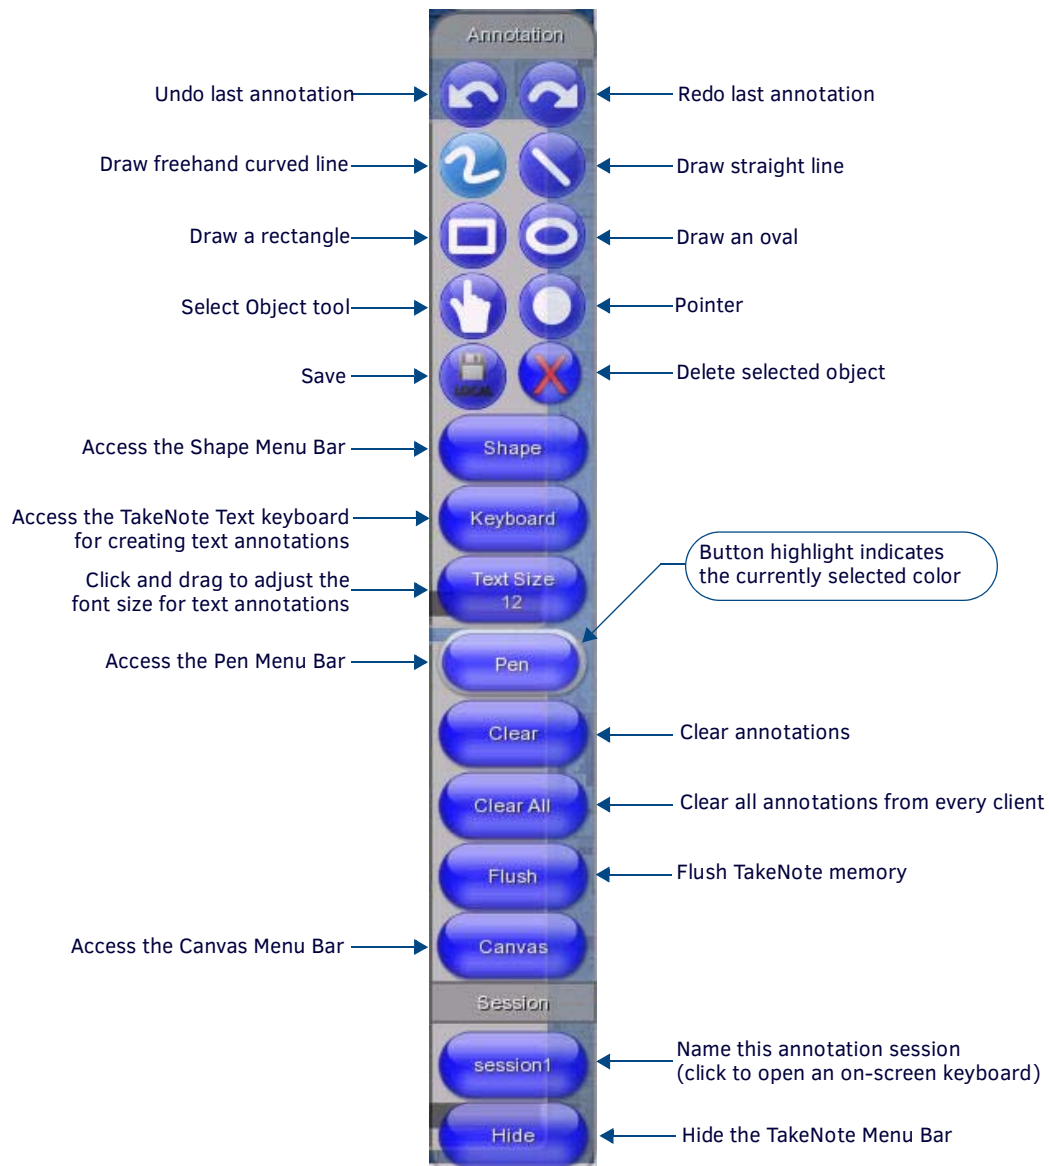
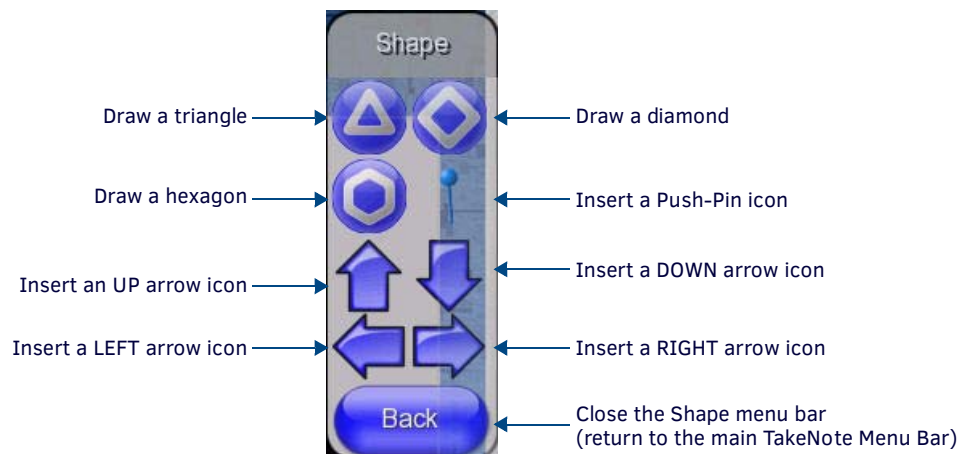
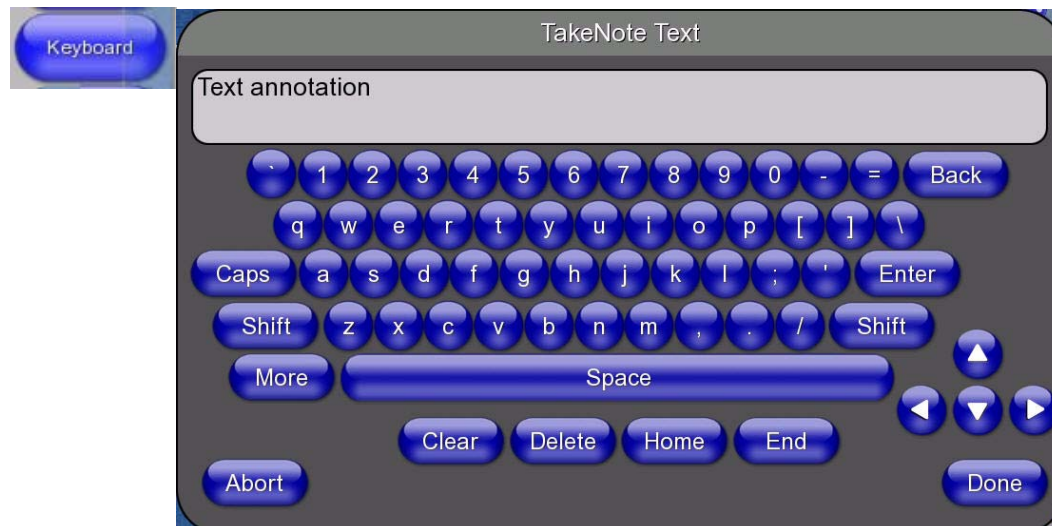

FIG. 91 TakeNote Menu Bar - detailed view
FIG. 99 TakeNote - Shape Menu Bar
FIG. 106 TakeNote Text Keyboard
The options in the TakeNote Menu Bar (FIG. 91) are described below:
1. Select the Straight Line tool from the TakeNote Menu Bar (see FIG. 91 on page 140).
1. Select the Rectangle tool from the TakeNote Menu Bar (see FIG. 91 on page 140).
1. Select the Oval tool from the TakeNote Menu Bar (see FIG. 91 on page 140).
Use the options in the Shape Menu Bar (see FIG. 99 on page 144) to draw triangles, diamonds and hexagons (see the *Shape Options Menu Bar* section on page 144 for details).
Click the **Shape** button in the TakeNote Menu Bar (see FIG. 91 on page 140) to access the Shape Menu Bar shown in FIG. 99:
Click the **Keyboard** button in the TakeNote Menu Bar (see FIG. 91 on page 140) to access the TakeNote Text Keyboard shown in FIG. 106:
3. Press the **Keyboard** button to open the TakeNote Text Keyboard (see FIG. 106 on page 146).